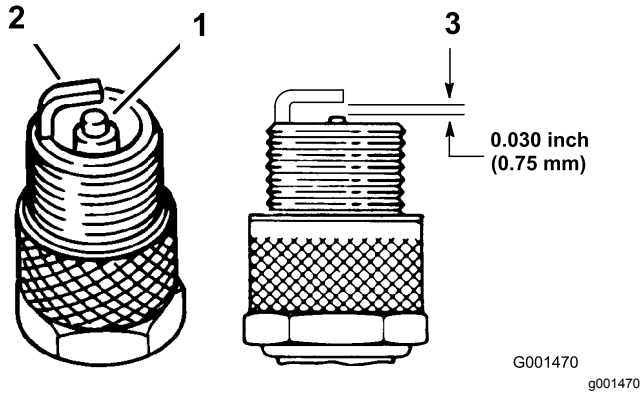

Figure 26
1. Look at the center of the spark plugs (Figure 26). If you see light brown or gray on the insulator, the engine is operating properly. A black coating on the insulator usually means that the air cleaner is dirty.
2. Check the gap between the center and side electrodes (Figure 26). Bend the side electrode if the gap is not correct.